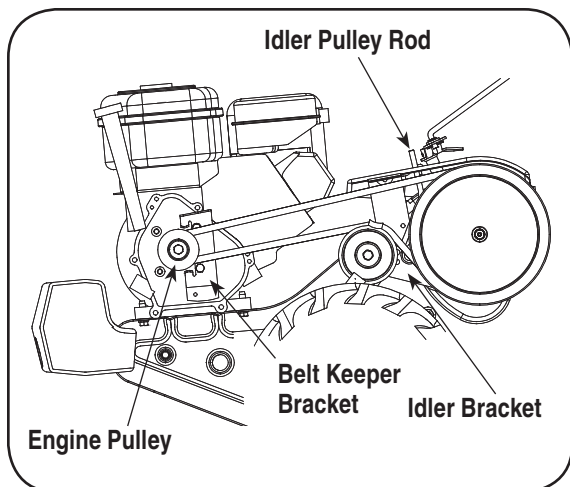

Figure 7-2
- Remove the belt keeper bracket located behind the engine pulley by removing two hex bolts and lock washers. See Figure 7-2.
NOTE: Upon reassembly, make certain the belt is routed over the idler pulley and inside of belt keepers by engine pulley. See Figure 7-2.